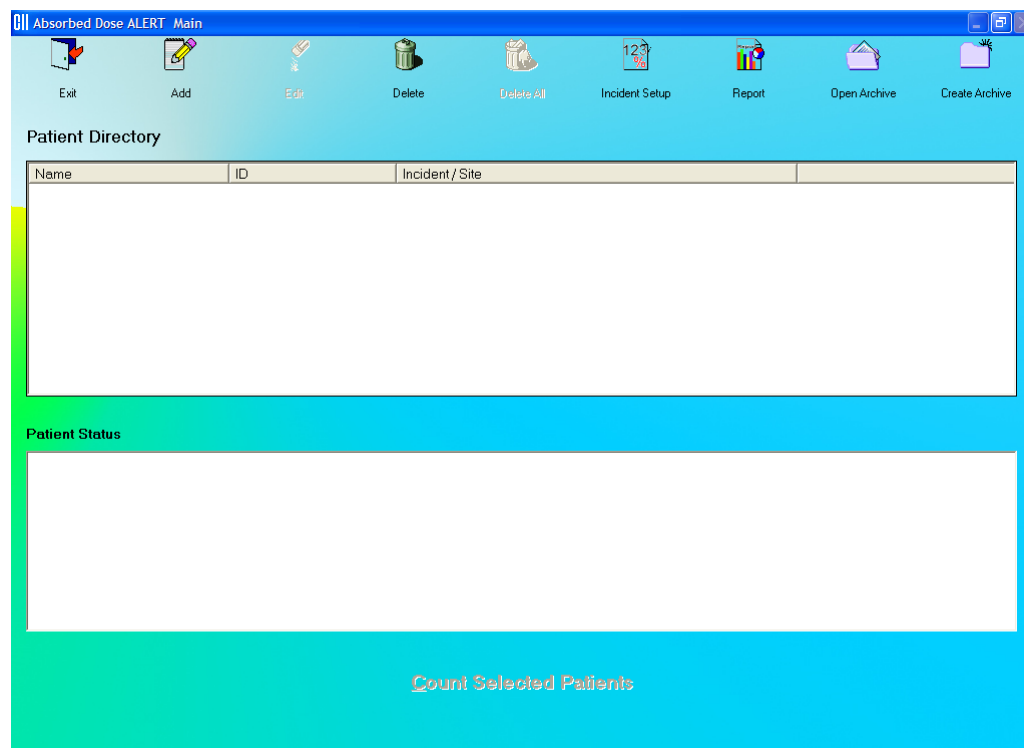

Figure 9-3 Absorbed Dose ALERT Main Screen
If is pressed, Figure 9-3 Absorbed Dose ALERT Main Screen will appear.
Click the  icon on Figure 9-3 Absorbed Dose ALERT Main Screen. Figure 9-4 Incident Setup Screen will appear.
2. Click the **Done** button to save changes or click the **Cancel** button to discard the changes and return to Figure 9-3 Absorbed Dose ALERT Main Screen.
Click the  icon on Figure 9-3 Absorbed Dose ALERT Main Screen. Figure 9-5 will appear.
2. Click the  button to save changes or click the  button to discard the changes and return to Figure 9-3 Absorbed Dose ALERT Main Screen.
Click the **Incident Setup** icon on Figure 9-3 Absorbed Dose ALERT Main Screen. Figure 9-6 will appear.
Click the  icon on Figure 9-3 Absorbed Dose ALERT Main Screen. Figure 9-11 will appear.